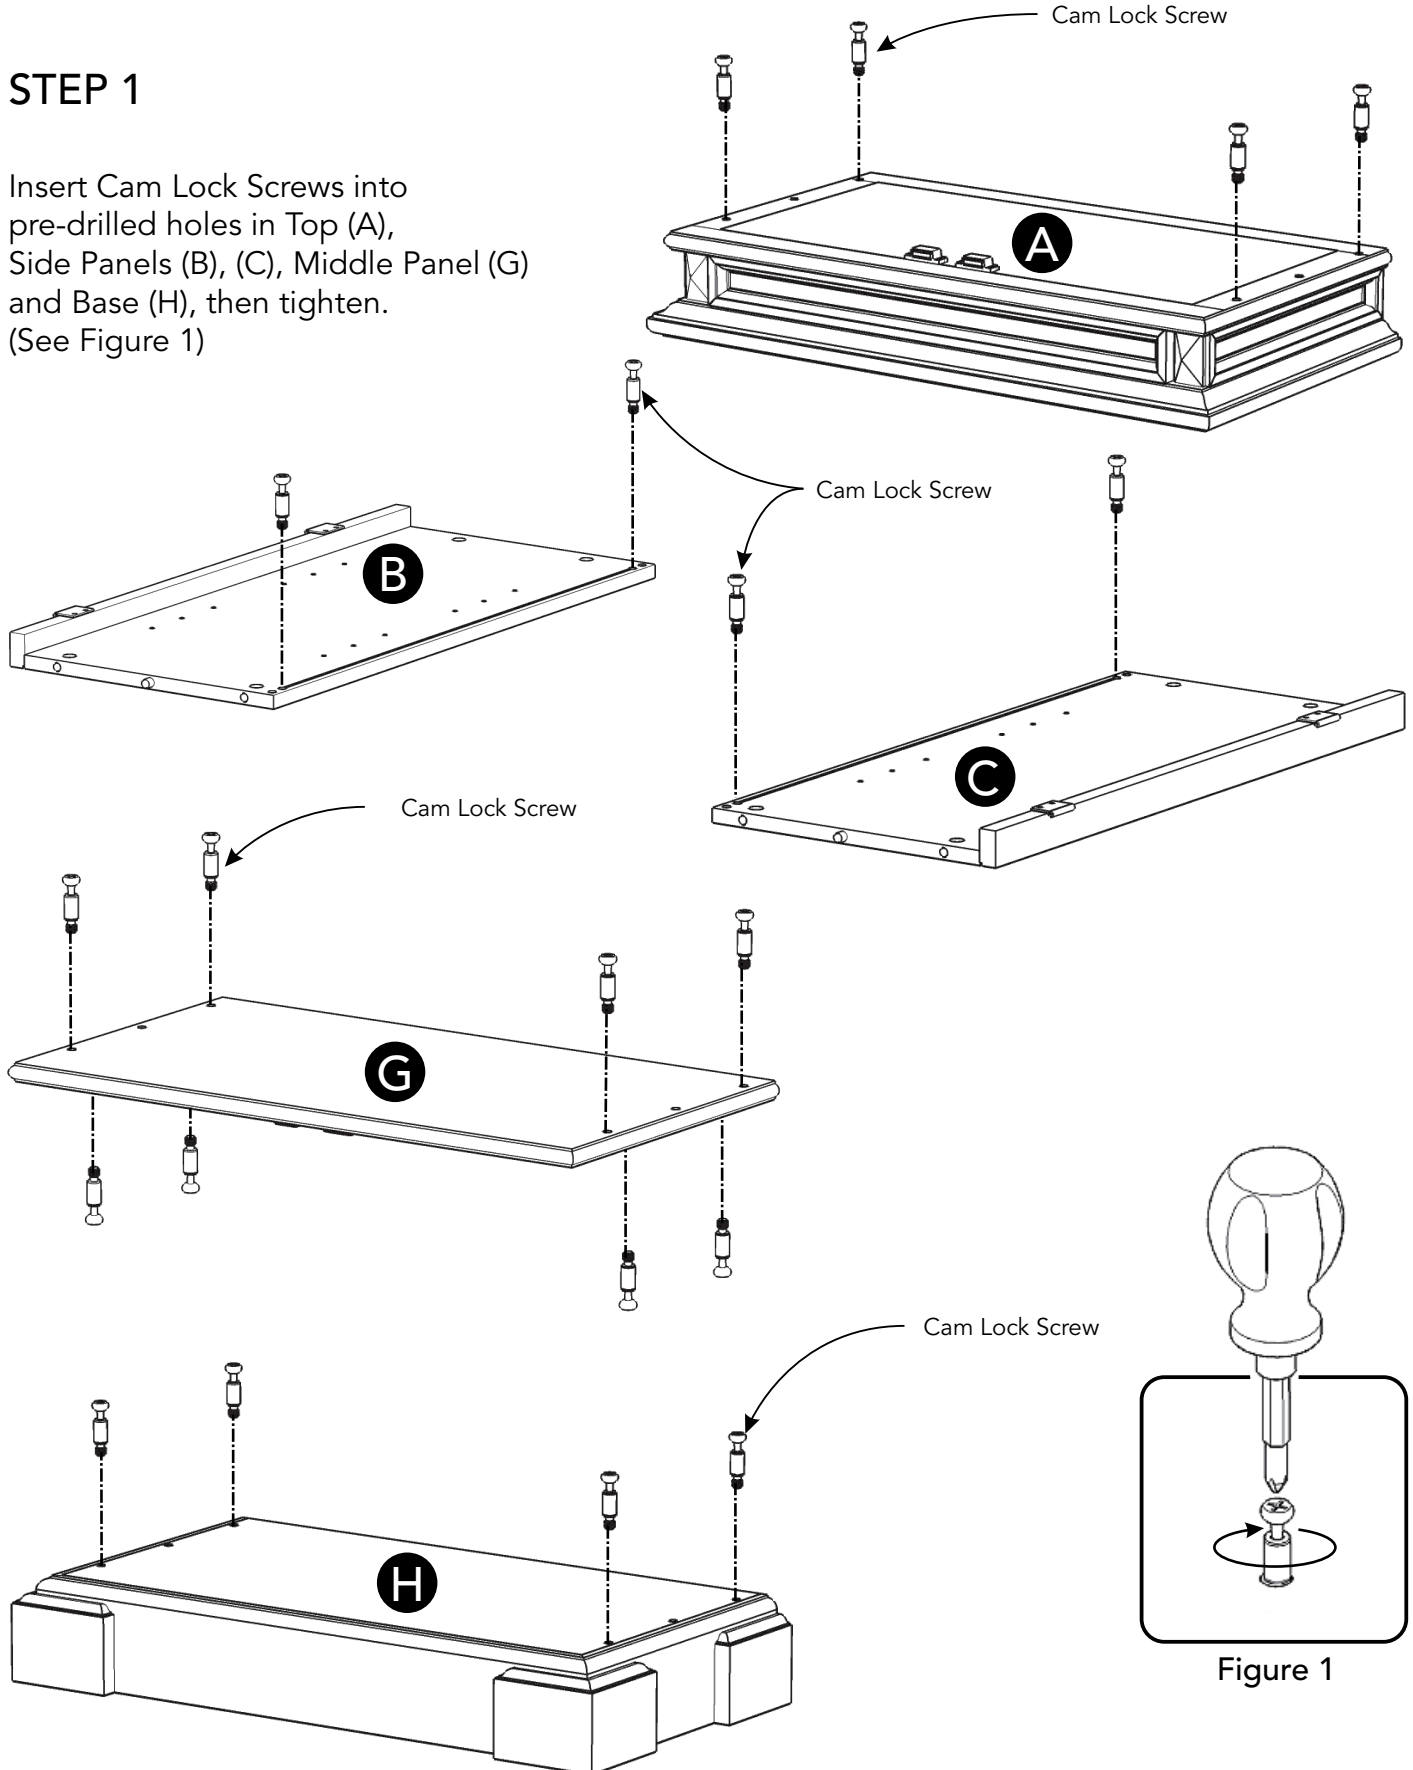

Figure 1
Insert Cam Lock Screws into pre-drilled holes in Top (A), Side Panels (B), (C), Middle Panel (G) and Base (H), then tighten. (See Figure 1)